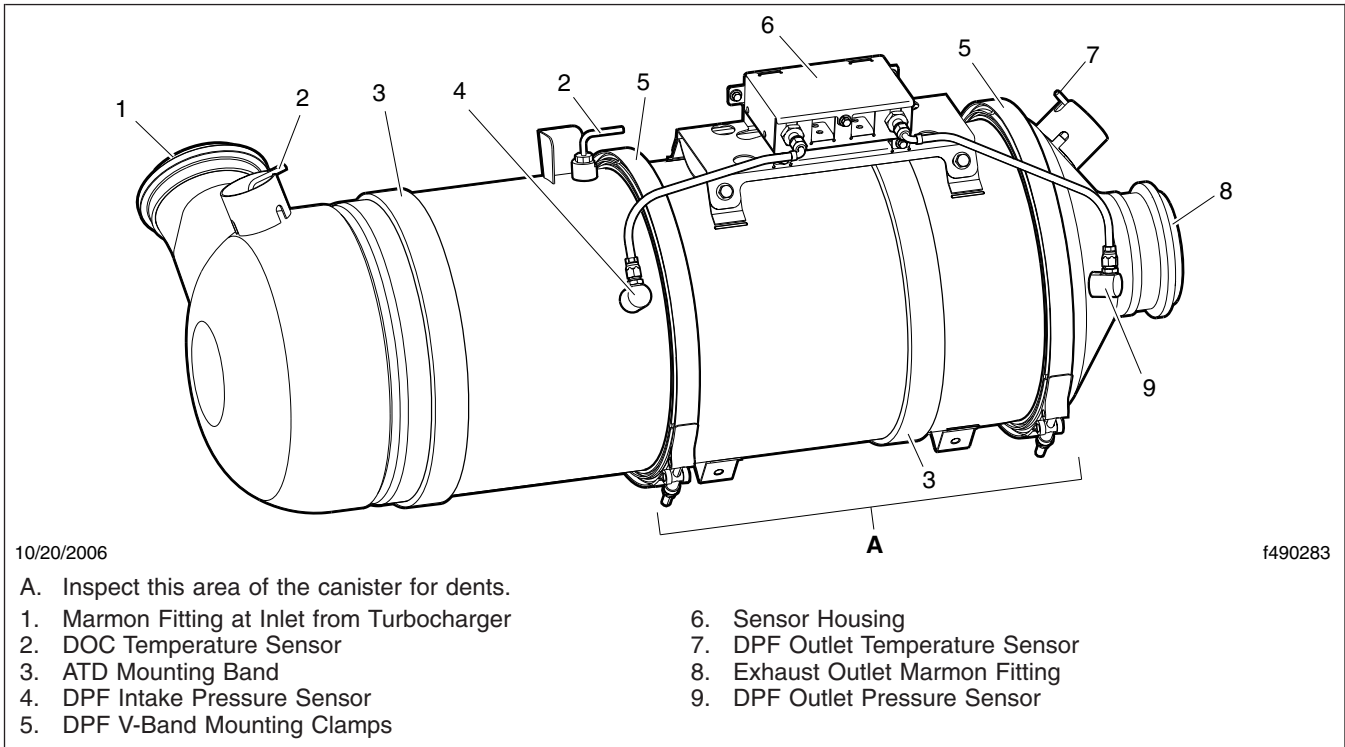

Fig. 4, Typical EPA07 Aftertreatment Device
IMPORTANT: The aftertreatment device (ATD), which is part of the aftertreatment system (ATS), requires special attention during regularly scheduled maintenance inspections; see Fig. 4. No leaks are allowed anywhere in the system. If any discrepancies are discovered, refer to the engine manufacturer’s service literature for repair instructions.
8. Check the DPF exterior surface for dents or other damage. See Ref. A of **Fig. 4**. A dent over 3 inches (76 mm) in diameter or 1/4-inch (6-mm) deep could cause internal damage to the DPF, causing it to malfunction.